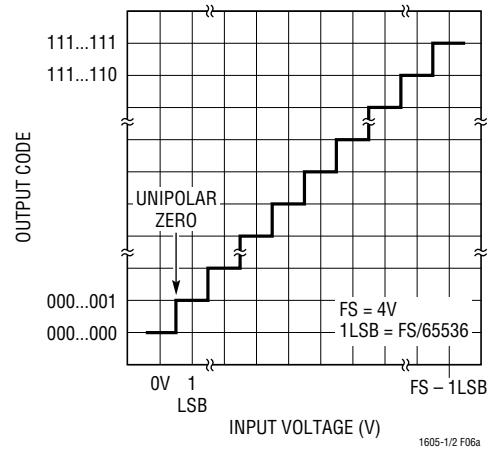
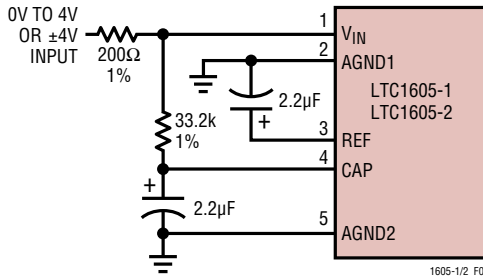
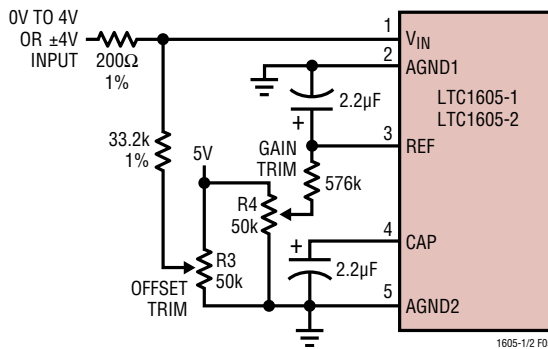

Figure 6a. LTC1605-1 Unipolar Transfer Characteristics
Figure 4. 0V to 4V Input for the LTC1605-1 and  $\pm 4V$  for the LTC1605-2 Without Trim
Figure 5. 0V to 4V Input for the LTC1605-1 and  $\pm 4V$  for the LTC1605-2 with Offset and Gain Trim
**Note 12:** As measured with fixed resistors shown in Figure 4. Adjustable to zero with external potentiometer.
The LTC1605-1/LTC1605-2 offset and full-scale errors have been trimmed at the factory with the external resistors shown in Figure 4. This allows for external adjustment of offset and full scale in applications where absolute accuracy is important. See Figure 5 for the offset and gain trim circuit for the LTC1605-1/LTC1605-2. First adjust the offset to zero by adjusting resistor R3. Apply an input voltage of 30.5 $\mu V$  (0.5LSB) and adjust R3 so the code is changing between 0000 0000 0000 0001 and 0000 0000 0000 0000. The gain error is trimmed by adjusting resistor R4. An input voltage of 3.999908V (FS – 1.5LSB) is applied to  $V_{IN}$  and R4 is adjusted until the output code is changing between 1111 1111 1111 1110 and 1111 1111 1111 1111. Figure 6a shows the unipolar transfer characteristic of the LTC1605-1.